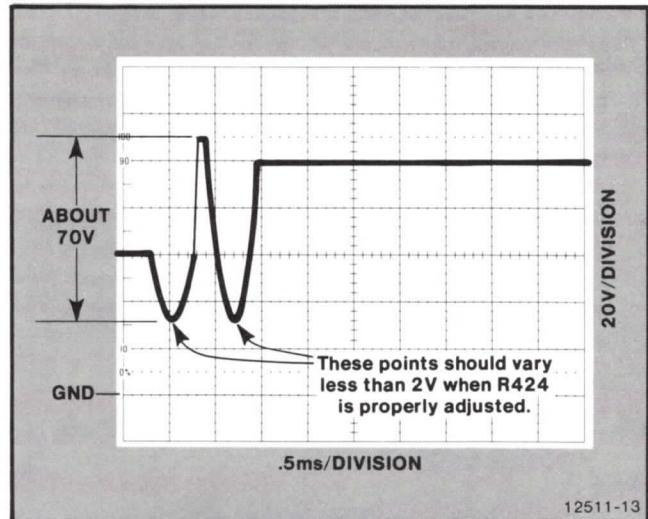

Figure 4-14. Dynamic Focus Waveform.
- ADJUST — R424 (Focus) on the Deflection Amplifier board so that the waveform changes less than 2 V as R128 (Corner Focus) is adjusted. See Figure 4-14.